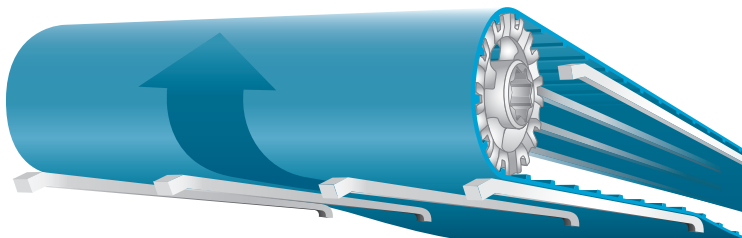

Figure 33
- Design support rails with a maximum 12 in (305 mm) lateral centerline distance between rails (Figure 33).